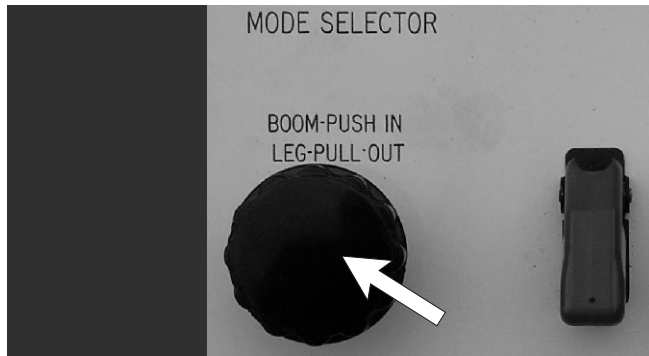

Figure 9.9 - Mode Selector Switch
1. Pull out the LEG/BOOM SELECTOR SWITCH to select stabiliser operation. (see Figure 9.9)